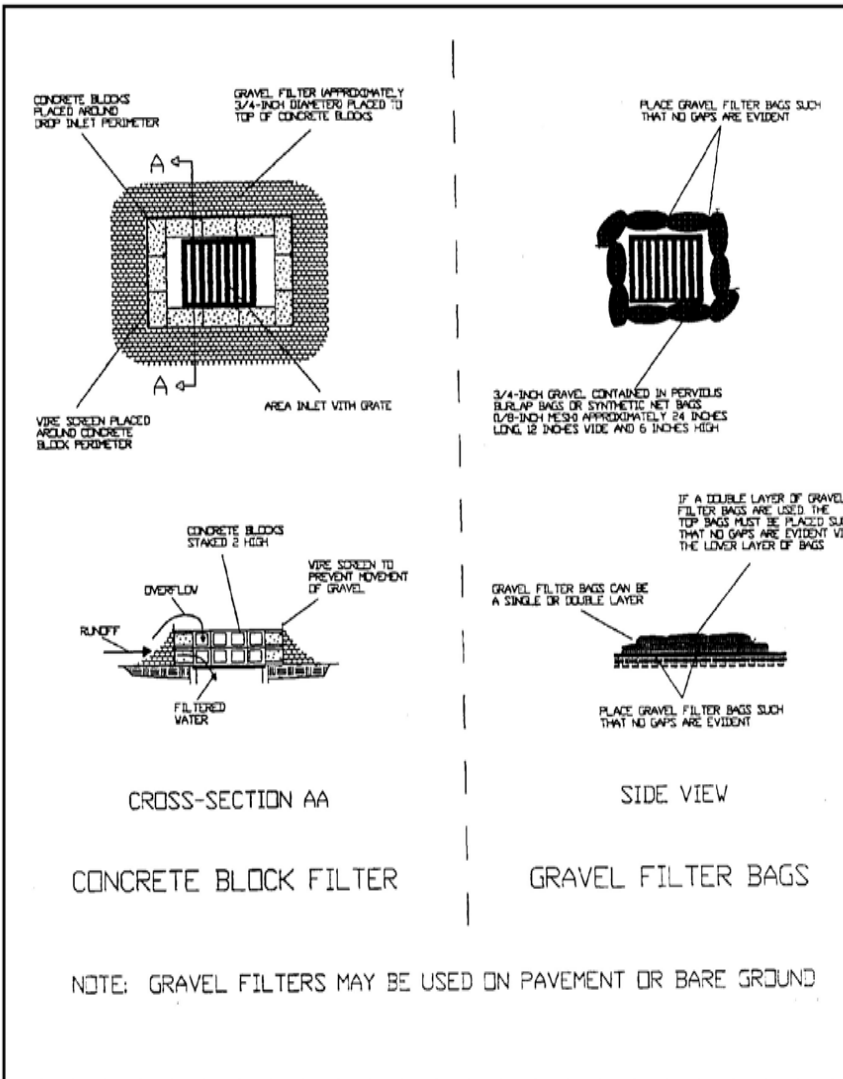

Figure 4.5e. Gravel Filters for Area Inlets
5. As a very temporary alternative, pervious burlap bags filled with gravel may be placed around the inlet, provided that there are no gaps between the bags (see Figure 4.5e).